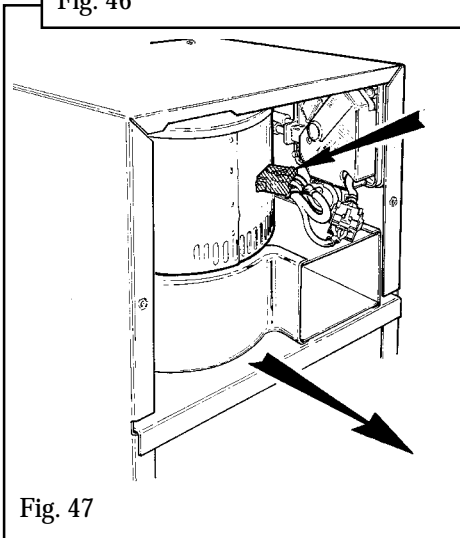

Fig. 47
- Withdraw the fan unit from the fan box taking care not to snag or damage the wiring loom. (See figure 47).